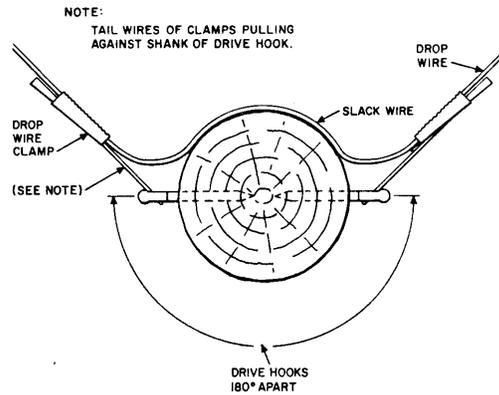

Fig. 5 - Turning Outside Corner
- 3.06 On outside corner poles where the angle would cause the drop wire to rub against the pole, use two drive hooks to support the wire as shown in Fig. 5.